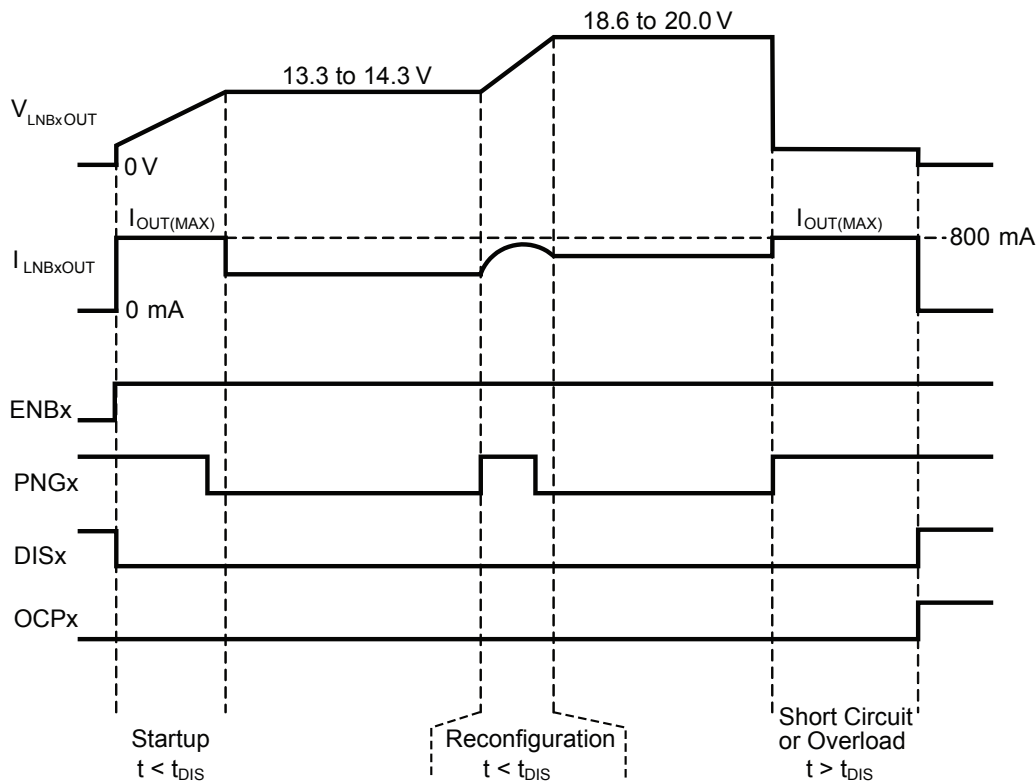

Figure 1. Startup, reconfiguration, and short circuit operation using  $R_{SET} = 37.4 \text{ k}\Omega$ , and a capacitive load
**LNB and BOOST Current Limits.** The LNBx output current limit,  $I_{\text{OUT(MAX)}}$  can be set by connecting a resistor ( $R_{\text{SET}}$ ) from the ISET pin to GND as shown in the applications schematic. The LNBx current limit can be set from 300 to 800 mA, corresponding to an  $R_{\text{SET}}$  value of 100 to 37.4 k $\Omega$ , respectively. If the LNBx current limit is exceeded for more than the Overcurrent Disable Time ( $t_{\text{DIS}}$ ) then the LNBx output will be disabled and the OCPx bit set, as shown in figure 1. The LNBx output current limit can be set as high as 950 mA ( $R_{\text{SET}} = 31.6$  k $\Omega$ ) but care should be taken not to exceed the thermal limit of the package or thermal shutdown (TSD) will occur. The typical LNBx output current limit can be set according to the following equation:
If the LNBx output current exceeds the set output current, for more than 45 ms, then the LNBx output will be disabled and the OCP bit will be set. See figure 1.